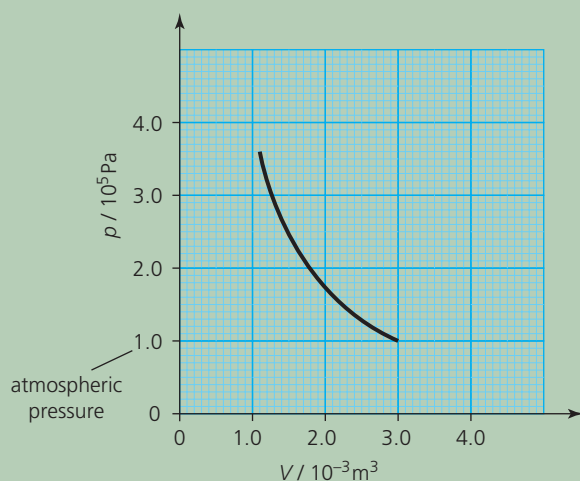

Figure Q3
Figure Q3 shows the variation of pressure with volume for the air initially in the bottle as it expands from $3.6 \times 10^5 \text{ Pa}$ to atmospheric pressure, assuming the expansion is adiabatic.
- With reference to Figure Q3, state and explain whether the rocket would have reached the same height if the air had expanded isothermally.